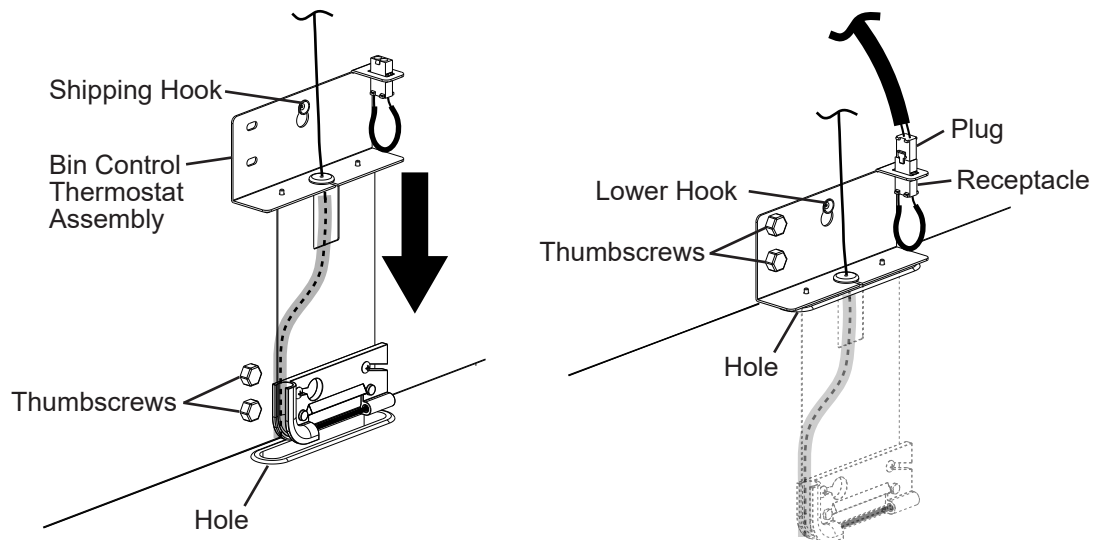

Fig. 3
- 7) Install the bin control thermostat assembly as follows. See Fig. 3.